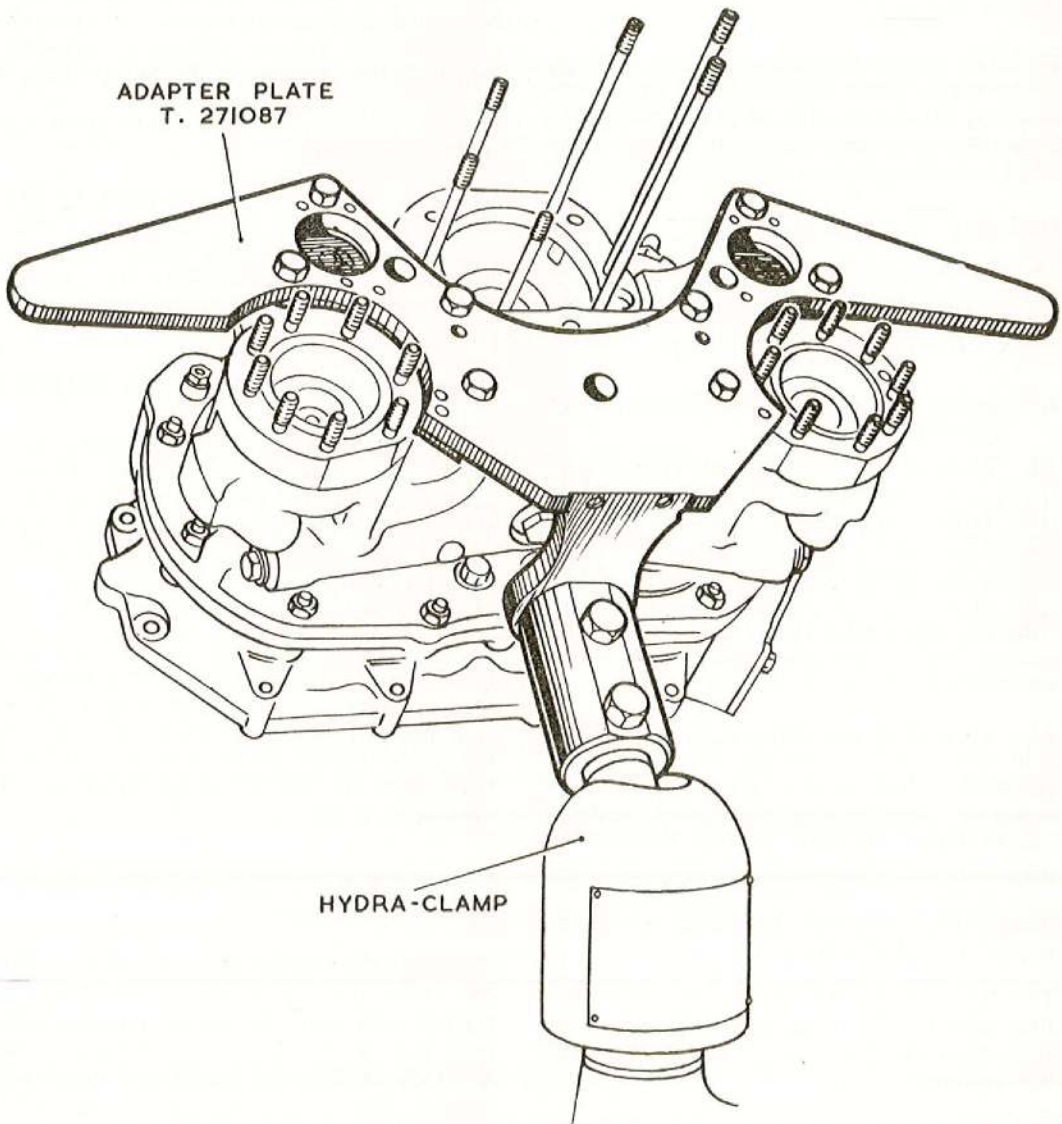

FIG. 1 ASSEMBLING AND DISMANTLING FIXTURE
25. Using the adapter plate T.271087 (fig. 1), mount the unit on the hydraclamp.